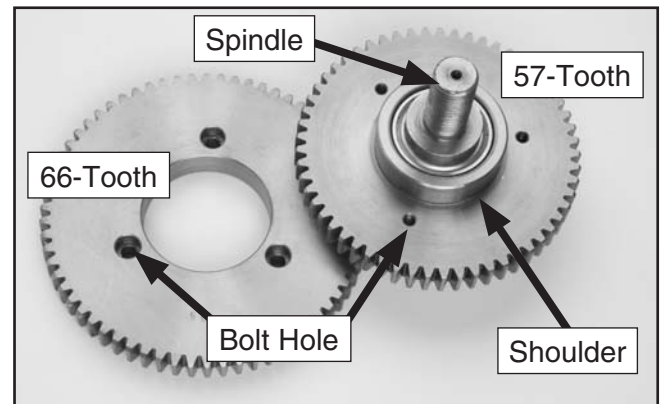

Figure 58. Center spindle, 57-tooth gear, and 66-tooth gear.
3. Put on your safety glasses, and using a 14mm wrench, remove the center spindle and gear assembly (**Figure 58**).
6. Place the bore of the 66-tooth gear onto the shoulder of the 57-tooth gear, and align the three bolt holes (**Figure 58**) of the gears.